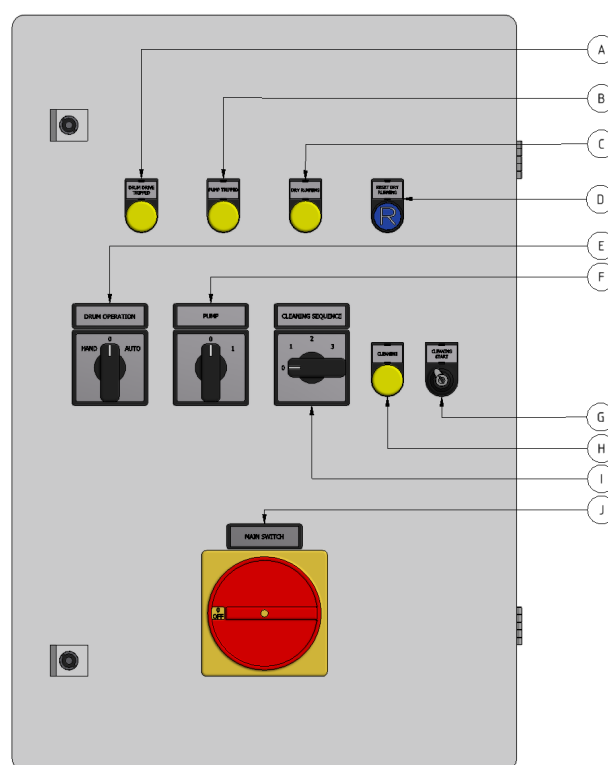

Figure 5.1 Front of the control cabinet.
2. Turn the pump switch to the OFF (0) position (see F in Figure 5.1).
3. Set the main power switch to the ON (1) position (see J in Figure 5.1).
4. Set the operating mode switch to the HAND position (see E in Figure 5.1).
Turn the operating mode switch to select the operating mode (see E in Figure 5.1).